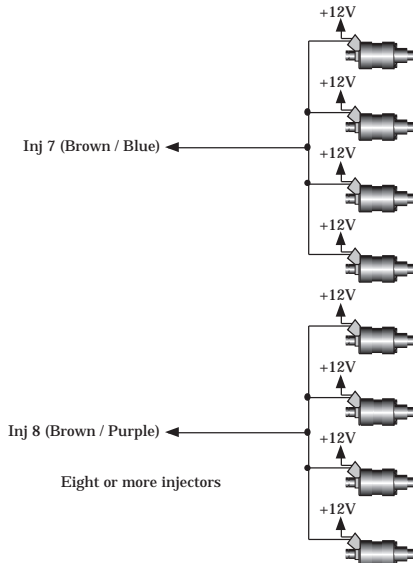

Figure 3.2. Group Fire wiring for 8 or more cylinders (High Impedance Injectors)
- For an 8-cylinder engine and above the injectors MUST be wired in two groups as shown in Figure 3.2. An 8-cylinder engine for example should use 2 groups of 4 injectors, a 12-cylinder engine should use 2 groups each containing 6 injectors.